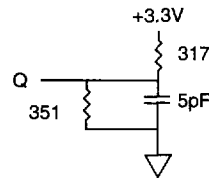

Figure 2
- Output loading is specified with C_L = 5pF as in Figure 2.
- The load used for V_{OH}, V_{OL} testing is shown in Figure 2. AC load current is higher than the shown DC values. AC I/O curves are available upon request.